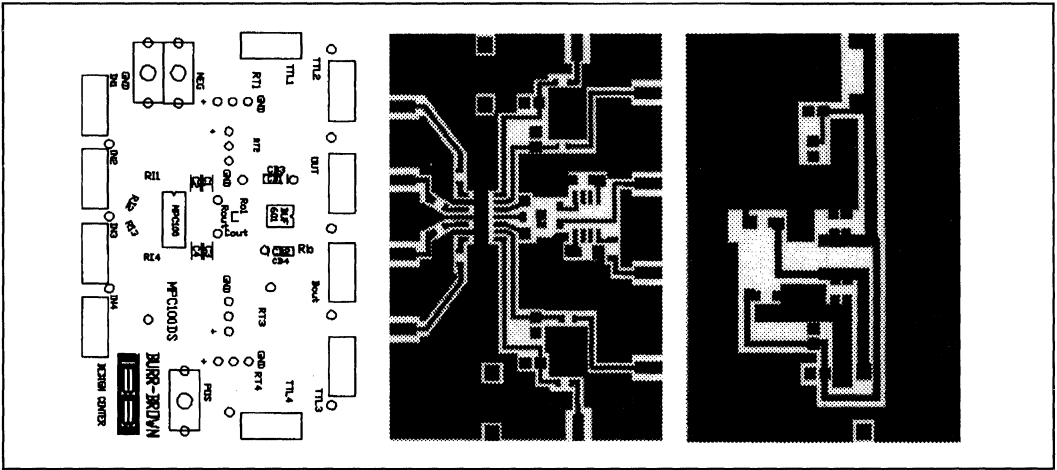
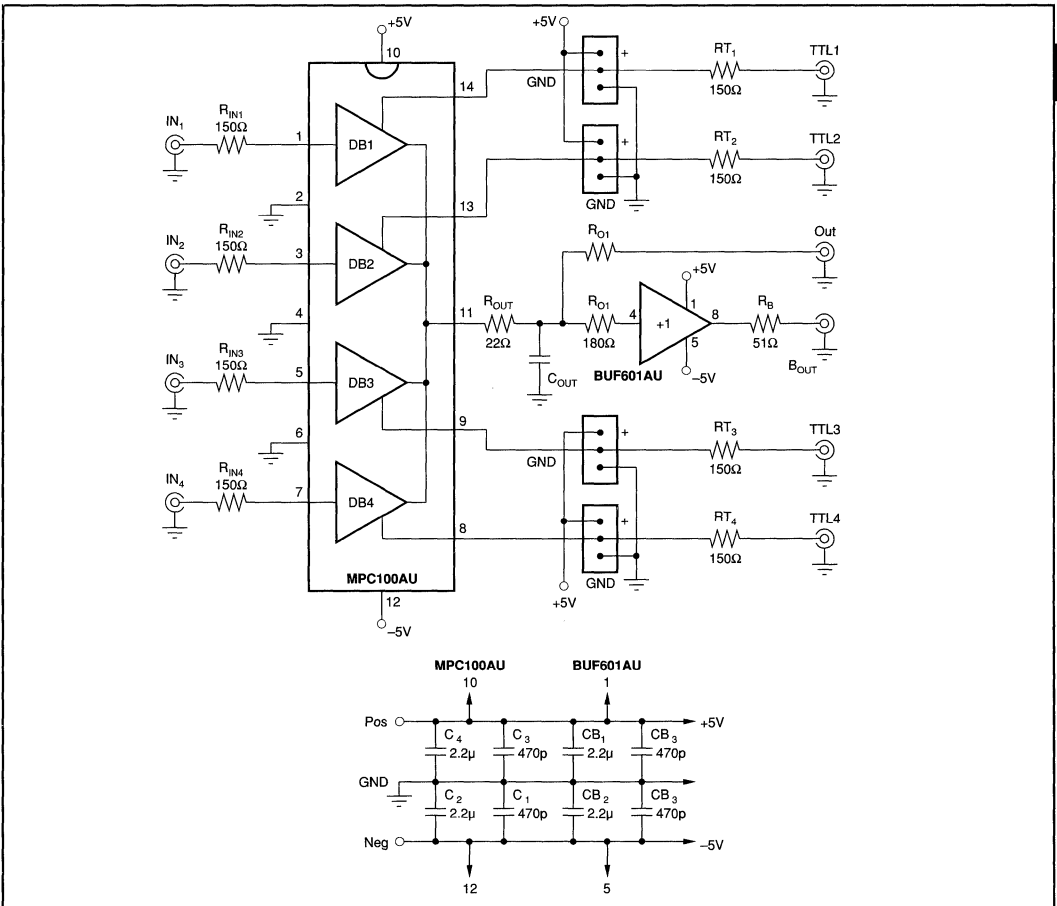

FIGURE 9. Silk Screen and Board Layout of DEM-MPC100-1GC.
FIGURE 10. Circuit Schematic DEM-MPC100-1GC.
- Use a low-impedance ground plane on the component side to ensure that low-impedance ground is available throughout the layout. Grounded traces between the input traces are essential to achieve high interchannel crosstalk rejection. Refer to the suggested layout shown in Figure 9.
A completely assembled and tested demonstration board is available for the MPC100AU to speed prototyping. This board allows easy and fast performance testing during the design phase and for product qualification. The user can qualify the most important parameters within hours instead of days, while avoiding the hassles of an optimized board layout and power supply bypassing. The complete AC characterization was performed with the same type. Figure 10 shows the schematic and Figure 9 the silk screen and the double-sided layout. Request DEM-MPC100-1GC.